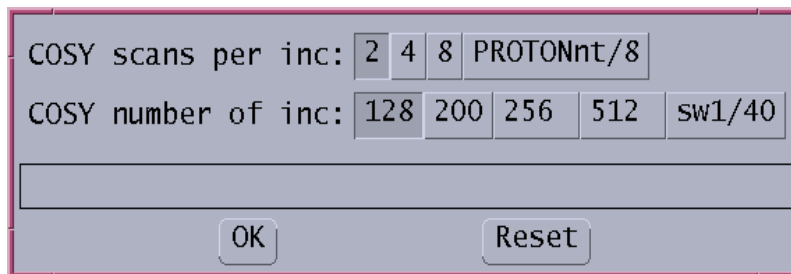

Figure 19. COSY Customization Window
8. In the new window, shown in **Figure 19**, use the left mouse button to choose the number of transients per increment and the number of increments in the COSY experiment. The values that you choose are shown as depressed buttons.